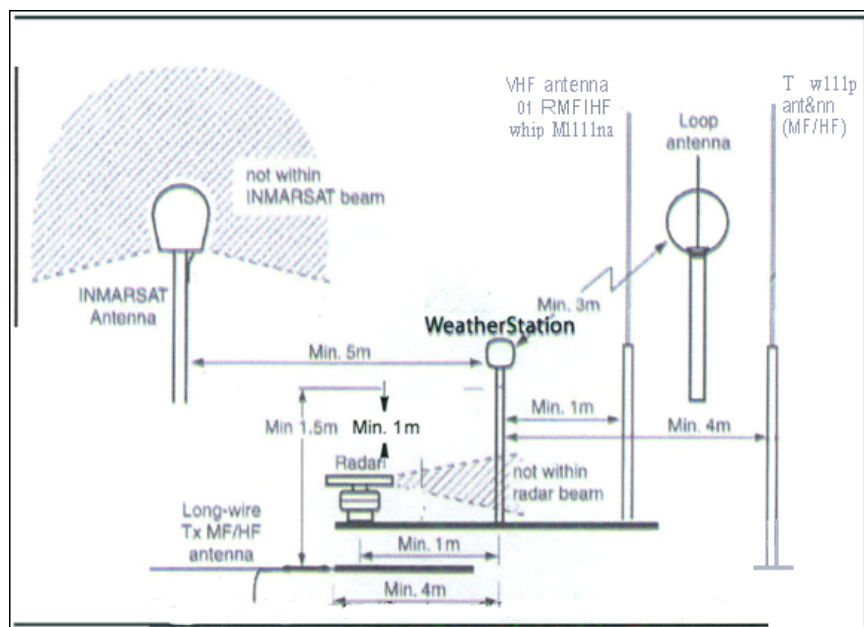

Figure 2 .Antennas (Courtesy of Northstar BNT,Acon,MA)
- Mount it as far as possible from high-powered transmitting antennas to avoid mutual interference (see Figure 2).
仪器安装时应尽量远离大功率发射天线，以避免互相干扰（见附图2）。
附图2 天线